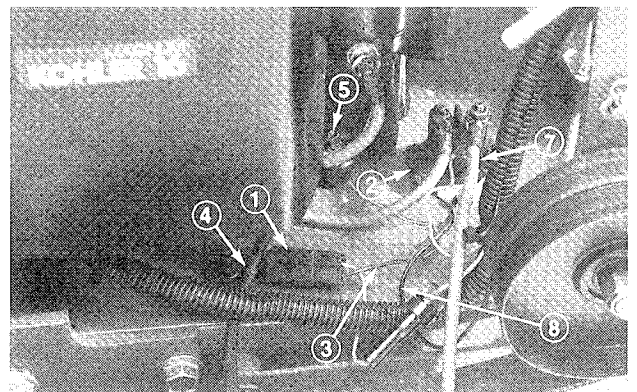

Figure 8
2. At left side of engine, secure male and female clutch connectors (Fig. 8).
3. Remove locknut from left rear engine mounting bolt. Secure negative, black battery cable and ring terminal wire from clutch connector to left rear engine mounting bolt with locknut removed (Fig. 8).
4. Secure remaining ring terminal wire from wire harness and Positive, red battery cable to rear terminal of starter solenoid with a 1/4 — 20 locknut (Fig. 8).